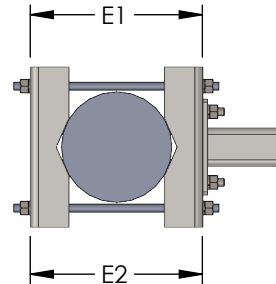

Fig.2
- +The mounting faces should be parallel with each other. Measure the gap between the front and back channel at each end. The difference between the measurements should be less than 1/8". **See Fig.2**